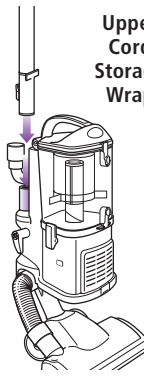

Fig. 10
- 3 Attach the end of the extension wand to the tube on the back of the detachable canister until it clicks into place. (Fig. 10)
- 4 Slide the accessory holder (a) positioned opposite the upper cord wrap, over the extension wand. Align the tab with the groove and push down. (Fig. 10)